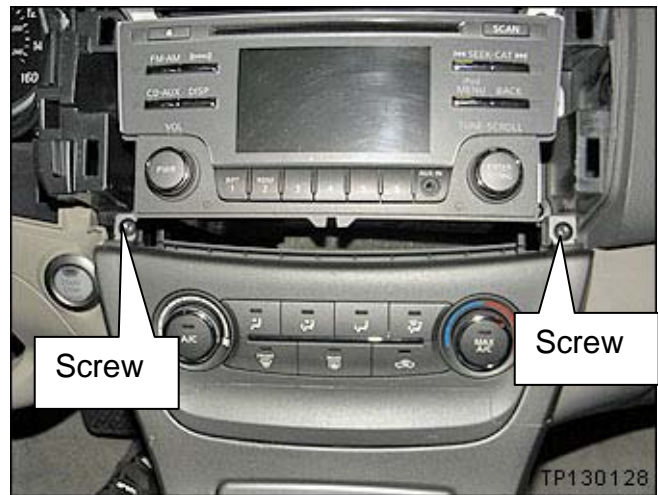

Figure 3
7. Remove the 2 screws shown in Figure 3.